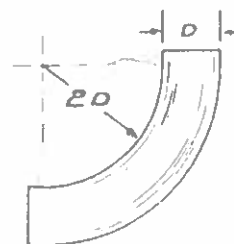

Figure 2
1. Avoid sharp turns in elbows from cleaner to collector. Allow an inside radius of at least two times the diameter of any pipe (whenever possible) See Figure 2.